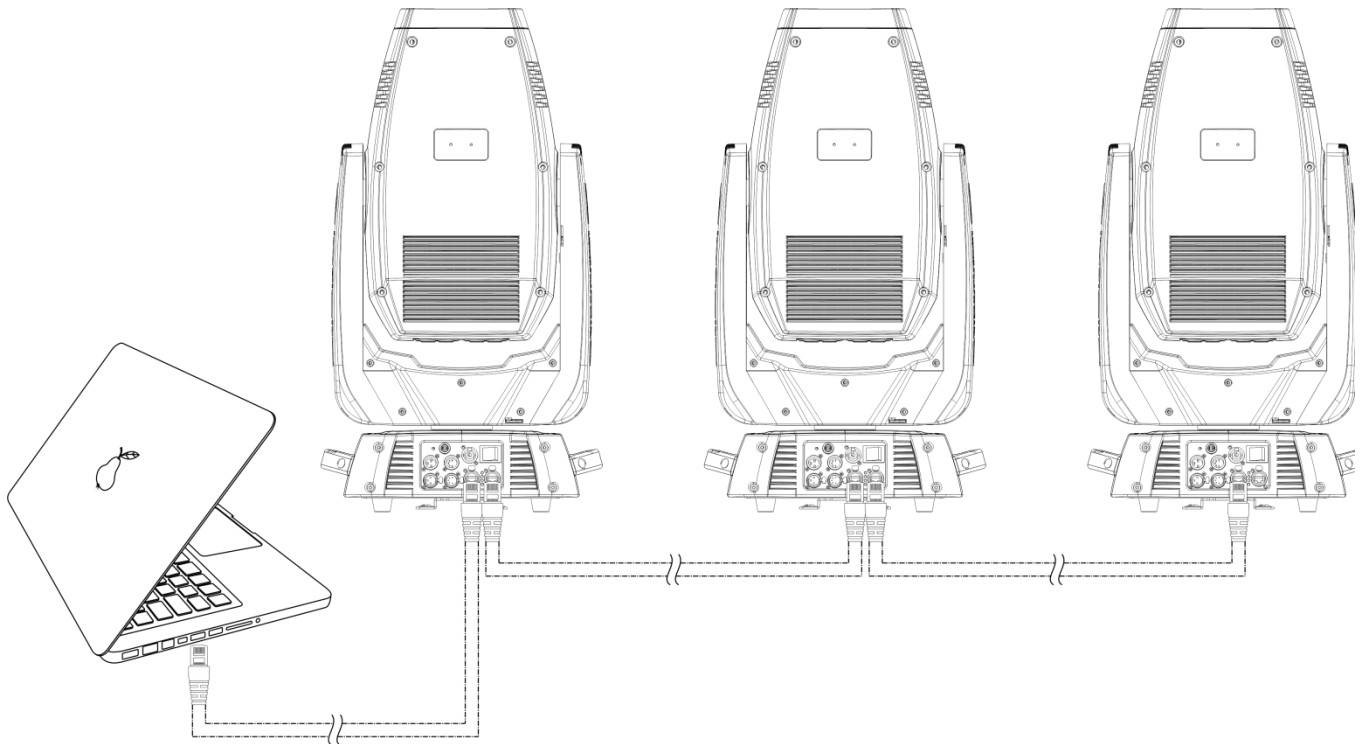

Fig. 05
- 05) Link the units as shown in fig. 05. Connect the first unit's RJ45 "out" socket with the second unit's "in" socket, using a CAT-5/CAT-6 cable. Repeat this process to link the second, third, and fourth units.